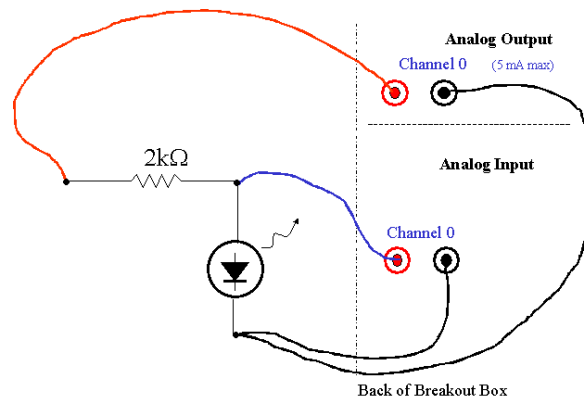

Figure 2.3.29. Circuit for Analog Input and Output.
1. Turn off and disconnect the power supply from your circuit, and wire your circuit as shown in Figure 2.3.29. On your LabVIEW program **Front Panel** (the gray screen), go through the same steps you used to pull up the **Numeric Digital Indicator**, except this time pull up a **Numeric Digital Control**. Hit the tab key until the text editing cursor appears, and overwrite the words **Numeric** and **Numeric (2)** with **Voltage Across LED** and **Voltage Out**, respectively.